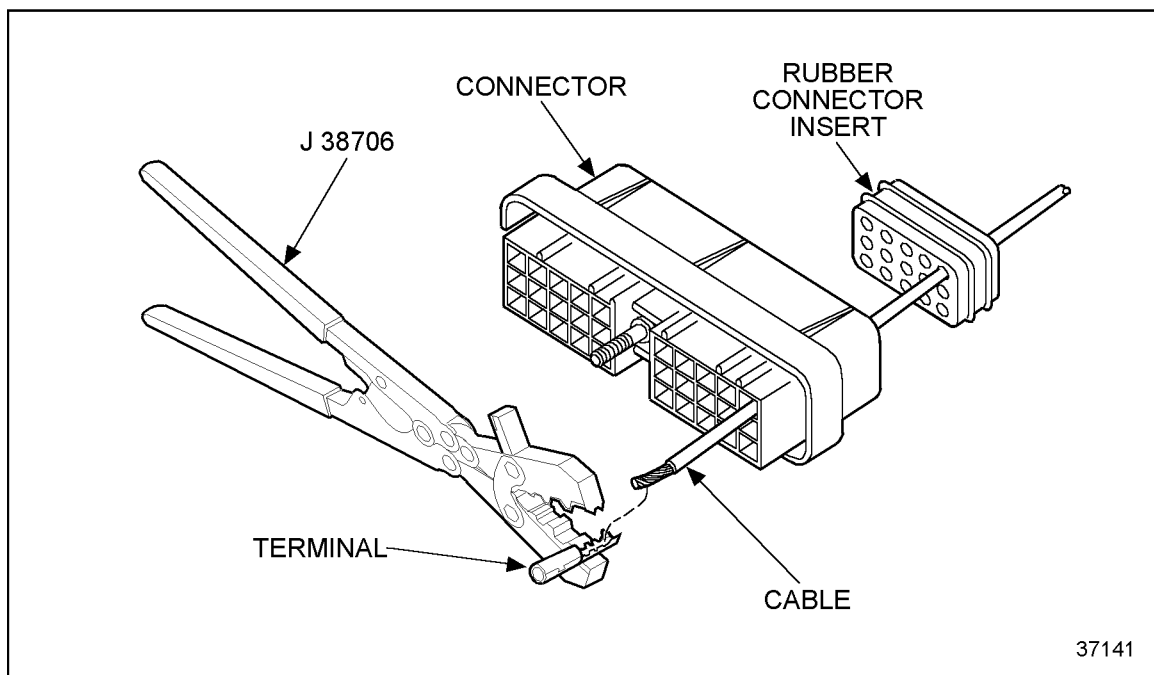

Figure 3-45 Typical Terminal Position
3. Insert the terminal into the locating hole of the crimping tool using the proper hole according to the gage of the cable to be used (see Figure 3-45).